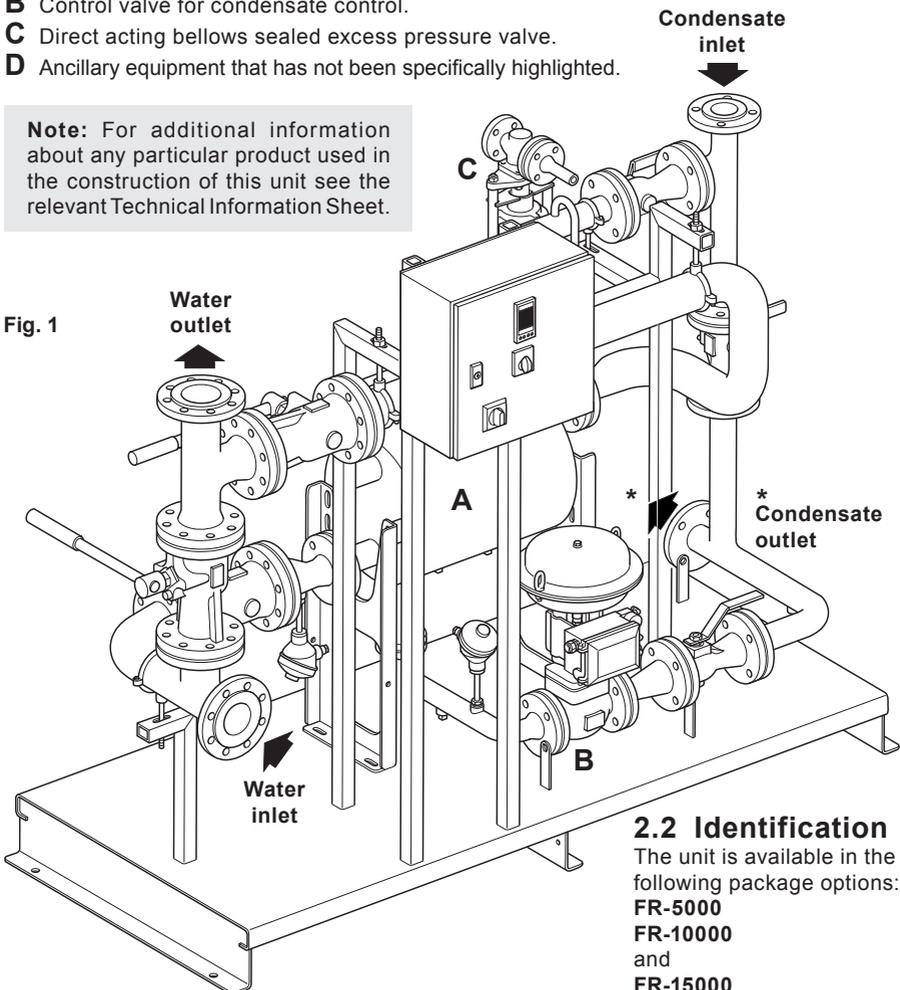

Fig. 1
1.13 Lifting (Figure 1)
The Spirax compact FREME Flash Recovery Energy Management unit consists of the following core items (Figure 1):